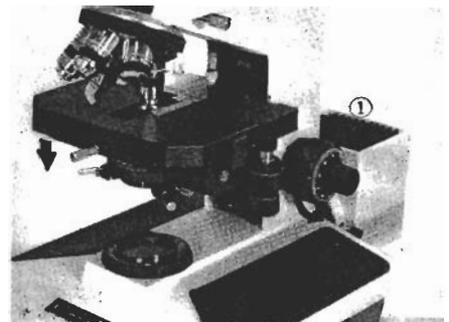

Fig. 7
- 1) Rotate the coarse adjustment knobs ① in the direction of the arrow to rack down the stage so that a specimen slide can be placed on the stage. (Fig. 7)